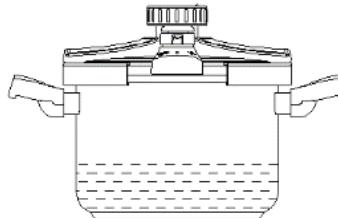

Fig.4
– Less than 1/3 of the cooker height for expansive food such as rice, bean, etc. (Fig. 4);